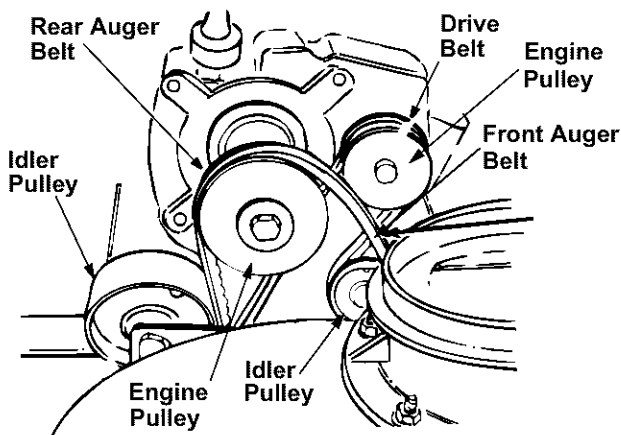

Figure 17
- Roll the front and rear auger belts off the engine pulley. See Figure 17.
- Pull idler pulley up, and lift belt off engine pulley and friction wheel disc. See Figure 17.